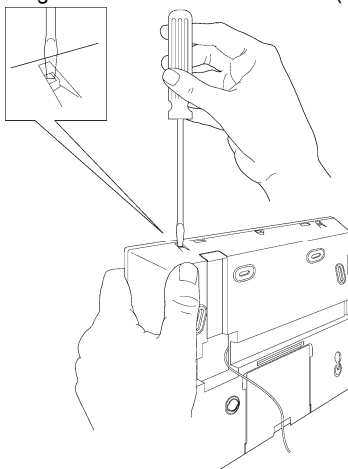

Figure 2-2: Opening the WisDom casing
- Press on the two locking tabs at the bottom of the unit (see figure 2-2).
- Gently hold the front panel from both sides, pull it up to a 45° angle and slide it to front to release the front panel from the two locking tabs at the top of the unit, see figure 2-2. (DO not open the front cover to a larger angle in order not to break the two top tabs at the top)